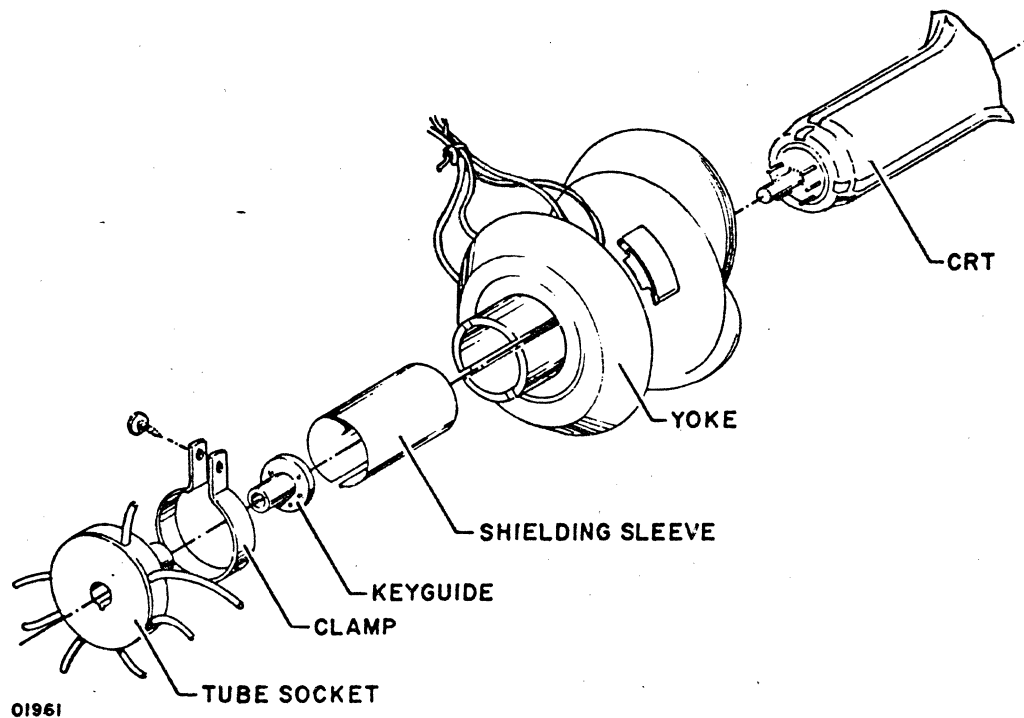

Figure CRT18. CRT Yoke Assembly
- 5) Using screwdriver, loosen screw in clamp which holds yoke in place (see figure CRT18).
- 14) Position shielding sleeve (figure CRT18) on neck of crt with one hand and slip yoke over neck and slide forward over sleeve. Sleeve should stick out from back of yoke when yoke is positioned forward.